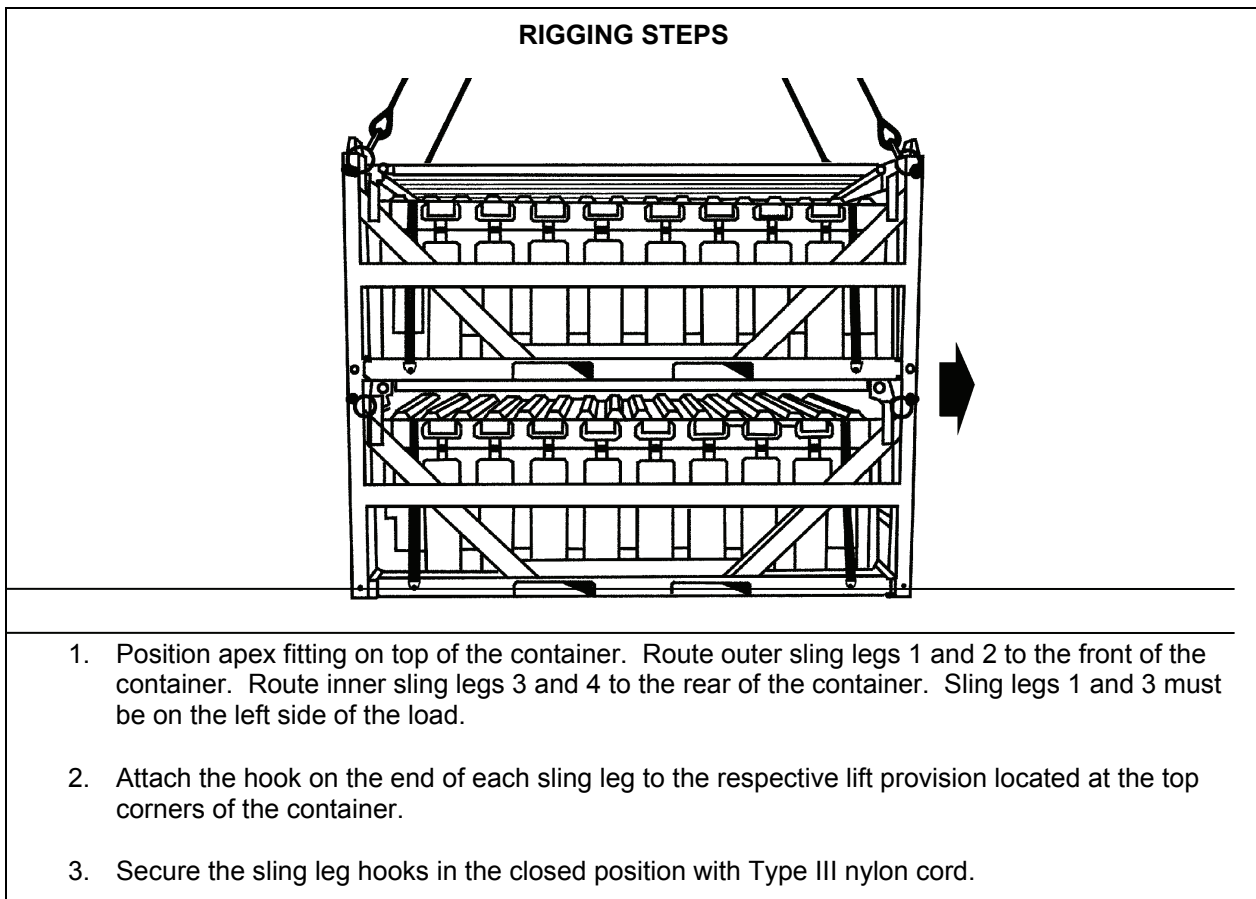

Figure 11-12. Distributed Explosive Technology System, Landing Craft, Air Cushioned, Landing Interface Kit Container, Double, Stacked
- **Rigging.** Rig the load according to the steps in Figure 11-12.